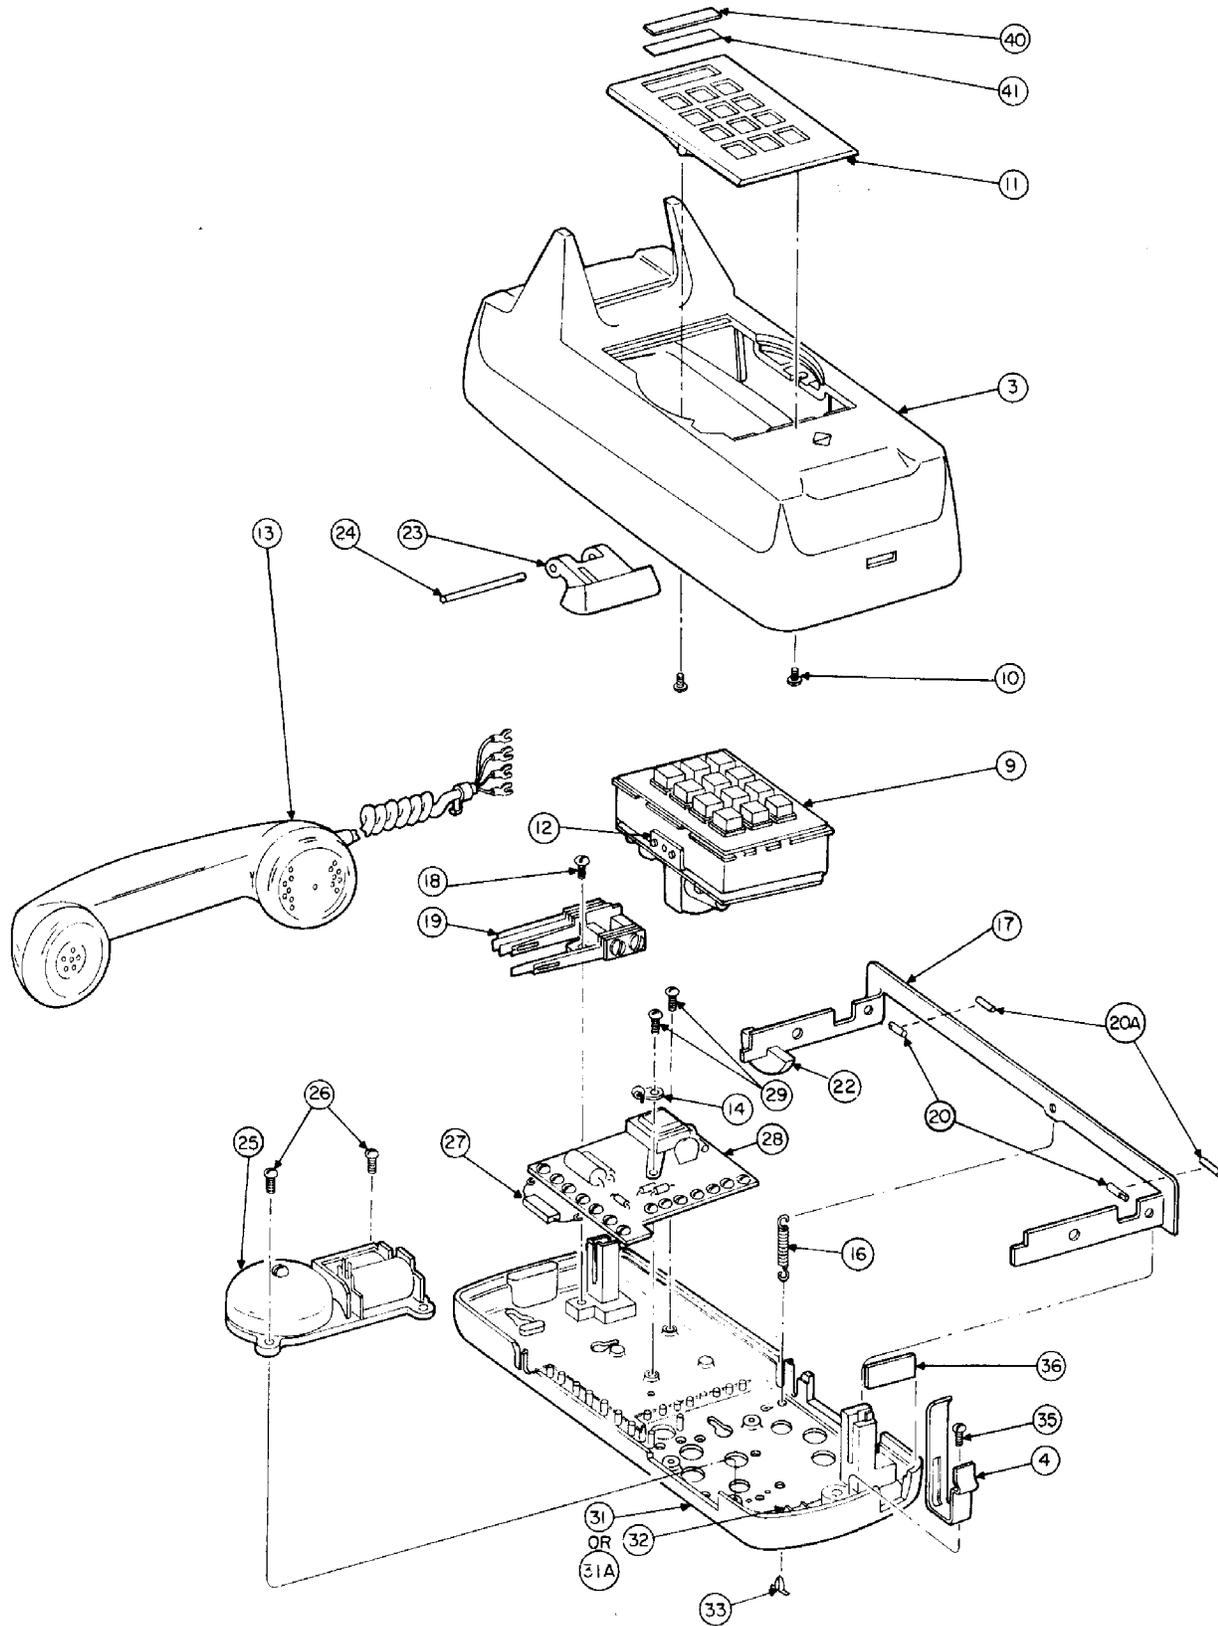

Figure 4. Exploded View of the Type 192A Wall Telephone.
3.05 To remove the wall telephone housing (item 3), refer to Figure 4, and proceed as follows:
- (a) Press in on the hook lock (item 4) located in the slot along the bottom surface of the telephone housing.
- (c) Lift the housing upward to disengage the tab located at the upper end of the housing from the slot in the baseplate (item 31 or 31a).
3.08 To remove an old-style TCU (item 9), refer to Figure 4 and proceed as follows:
- (a) Disconnect the TCU leads from the transmission network (item 28) terminals.
- (b) Remove the TCU mounting screws (item 10), and lift the TCU adapter plate (item 11) off the telephone housing.
3.09 To remove a Type 12C TCU (item 9), refer to Figure 4 and proceed as follows:
- (a) Disconnect the TCU leads from the transmission network (item 28) terminals and the baseplate terminals.
- (b) Remove the two TCU mounting screws (item 10). Lift the TCU adapter plate (item 11) and telephone housing off the TCU.